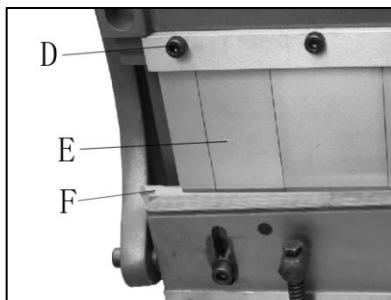

Figure 5
1. Place a strip of wood (F, Figure 5) on bottom die, the full length of die.
3. Loosen screws (D) using 5mm hex key.